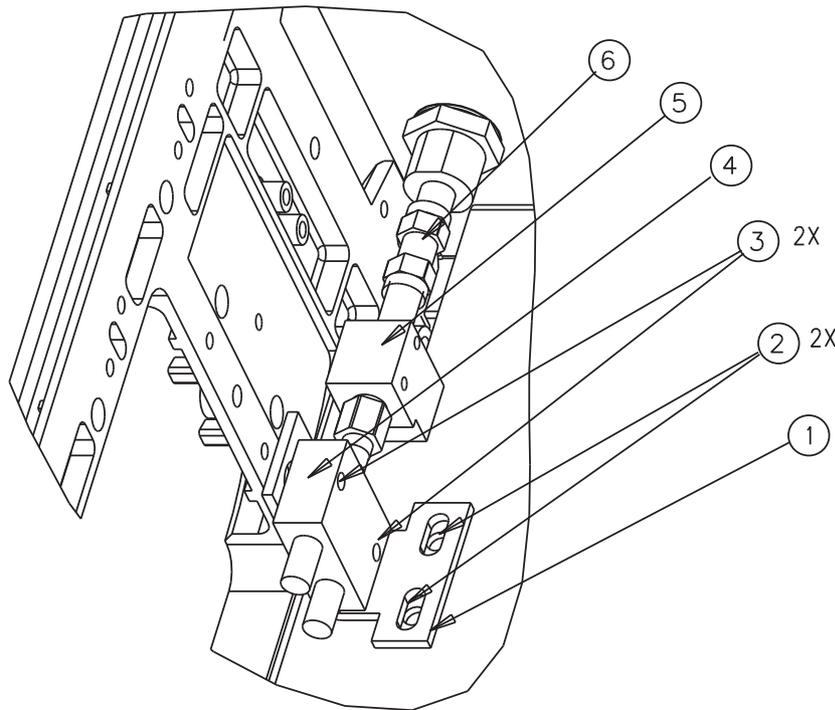

Figure 6-5. LO Power Divider and LO Isolator Removal
2. Disconnect the two RF cables from the LO power divider (4). Refer to Figure 6-5, “LO Power Divider and LO Isolator Removal” on page 6-8.
3. Remove the two screws (2) that secure the LO power divider bracket (1) to the chassis.
4. Loosen the connection between the LO power divider (4) and the LO isolator (5) until they are separated.
5. Remove the LO power divider (4) with its bracket from the 3738A Test Set.
6. Remove the two mounting screws (3) that secure the LO power divider (4) to the LO power divider bracket (1).
7. Remove the LO power divider (4) from the bracket (1).
3. Use a wrench to loosen the connection between the LO isolator (5) and the adapter (6) until the LO isolator is separated from the adapter. Refer to Figure 6-5, “LO Power Divider and LO Isolator Removal” on page 6-8.